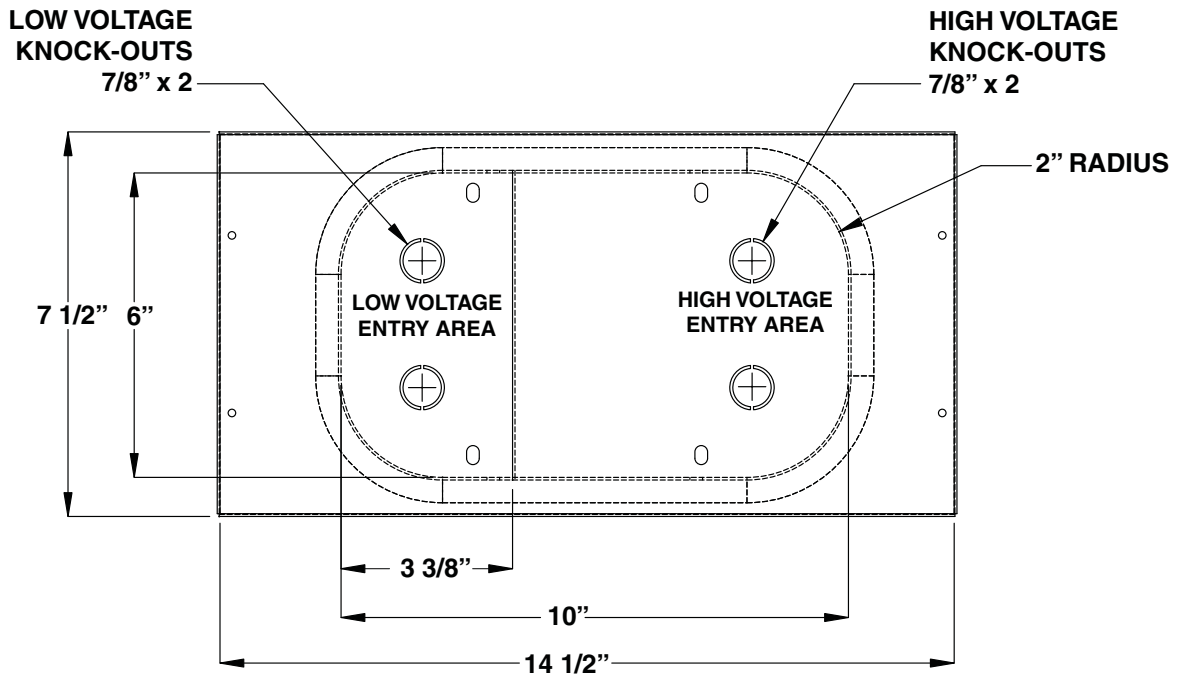

Figure 16. Bottom Power Entry Box Base Plate
- The base-plate is provided with four – 7/8” knock-outs for both low & high voltage wiring entry to the unit. The two – left side knock-outs are for the low voltage compartment and the two – right side knock-outs are for the high voltage entry(s). If a larger entry hole is required, use a sheet metal hole punch or other applicable method to produce the proper hole diameter for the strain-relief or conduit connection to be utilized. (See Figure 16)